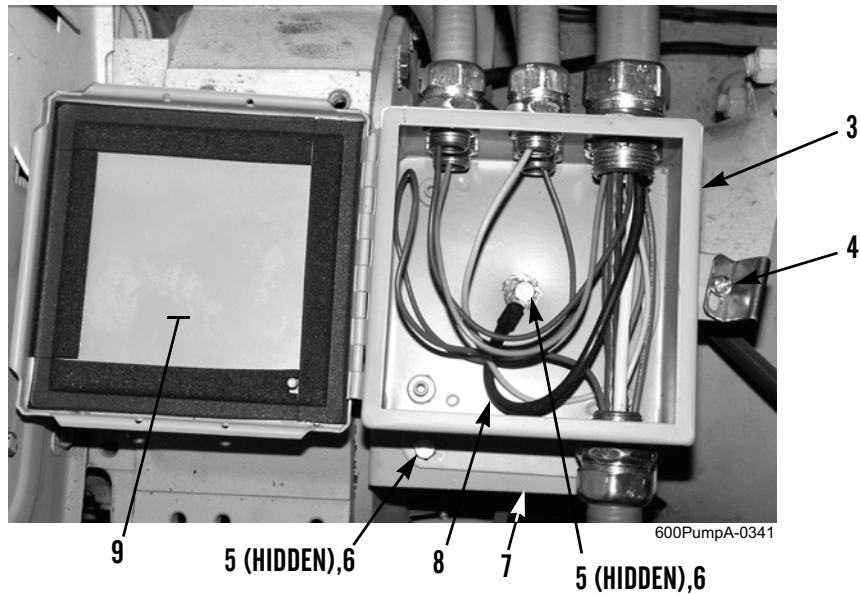

Figure 2. Wiring Harness Junction Box.
4. Loosen screw (Figure 2, Item 4) and open cover (Figure 2, Item 9) of wiring harness junction box (Figure 2, Item 3).
5. Remove five locknuts (Figure 2, Item 5), bolts (Figure 2, Item 6), and ground wire (Figure 2, Item 8) from wiring harness junction box (Figure 2, Item 3) and remove wiring harness junction box from mounting bracket (Figure 2, Item 7). Discard locknuts.
6. Close cover (Figure 2, Item 9) of wiring harness junction box (Figure 2, Item 3) and tighten screw (Figure 2, Item 4).